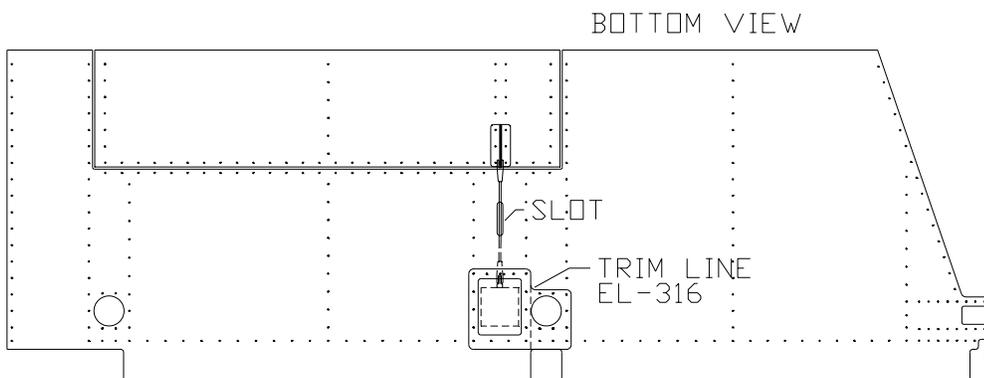

Figure 3.5.7
- 25) Between the two holes, along the line, drill #40 holes at an approximate spacing of 1 1/2" Figure 3.5.7.
- 40) Mount the Trim Horns to the trim skin with fourteen 1/8" avex rivets (RV-1410). Position so it is in line with the Servo output shaft. Figure 3.5.7.